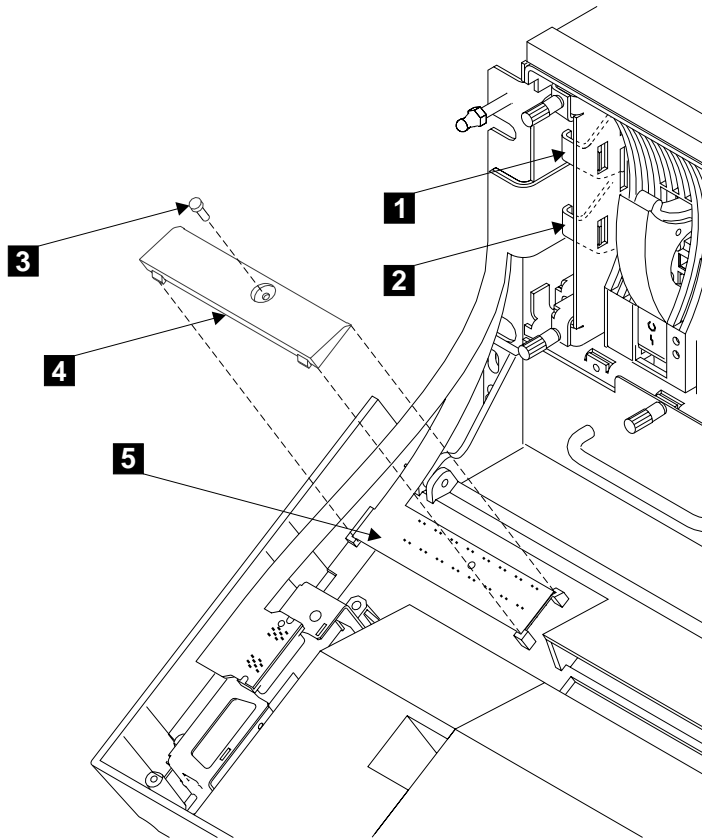

Figure 109. Removing the Disk Drive Status Lights Assembly from a Model D40
- Step 3. Refer to Figure 109.